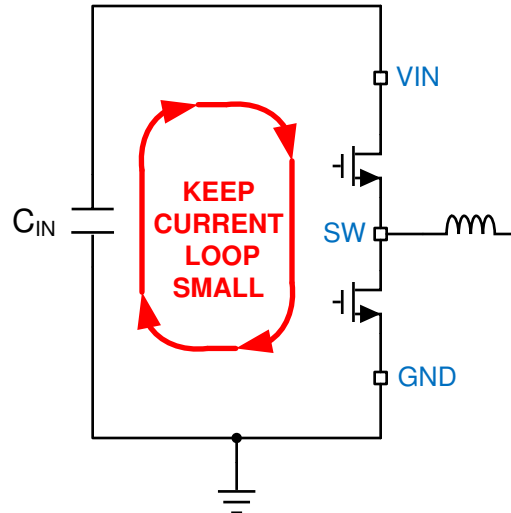
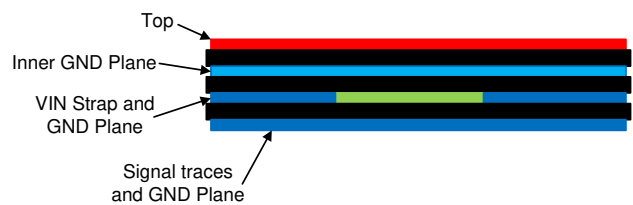

图 10-1. Current Loops with Fast Edges
图 10-3. Example Layout for VQFN Package
The PCB layout of any DC/DC converter is critical to the optimal performance of the design. Bad PCB layout can disrupt the operation of an otherwise good schematic design. Even if the converter regulates correctly, bad PCB layout can mean the difference between a robust design and one that cannot be mass produced. Furthermore, the EMI performance of the regulator is dependent on the PCB layout, to a great extent. In a buck converter, the most critical PCB feature is the loop formed by the input capacitor or input capacitors, and power ground, as shown in Figure 10-1. This loop carries large transient currents that can cause large transient voltages when reacting with the trace inductance. These unwanted transient voltages will disrupt the proper operation of the converter. Because of this, the traces in this loop must be wide and short, and the loop area as small as possible to reduce the parasitic inductance. Figure 10-2 and Figure 10-3 show recommended layouts for the critical components of the LMR33630.
1. **Place the input capacitor or capacitors as close as possible to the VIN and GND terminals.** VIN and GND pins are adjacent, simplifying the input capacitor placement. With the VQFN package there are two VIN/PGND pairs on either side of the package. This provides for a symmetrical layout and helps minimize switching noise and EMI generation. A wide VIN plane must be used on a lower layer to connect both of the VIN pairs together to the input supply; see Figure 10-3.